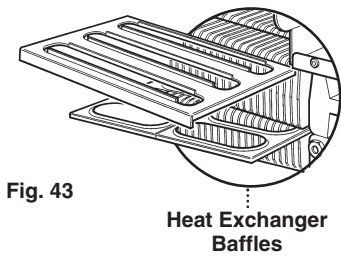

Fig. 43
1. Remove the top and the centre baffles from the heat exchanger, noting their orientation (Fig. 43).